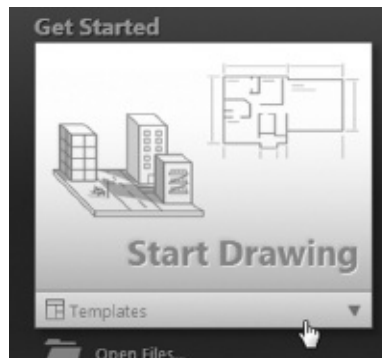

FIGURE 1.24 Click the Templates option below the Start Drawing icon.
1. In the Start tab, locate the Templates option at the bottom of the Start Drawing icon and click it (see Figure 1.24).